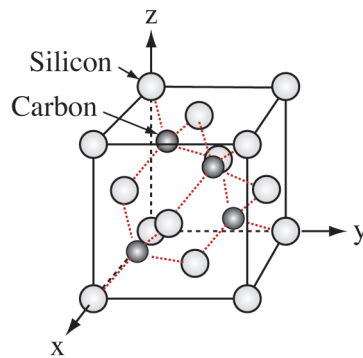

Fig. 7b
(b) Figure 7b shows the unit cell of diamond cubic (DC) silicon carbide. The lattice constant of silicon carbide is $a = 0.436 \text{ nm}$. The atomic mass of silicon is $28.09 \text{ kg kmol}^{-1}$ and that of carbon is $12.01 \text{ kg kmol}^{-1}$. Calculate the theoretical density of the silicon carbide.